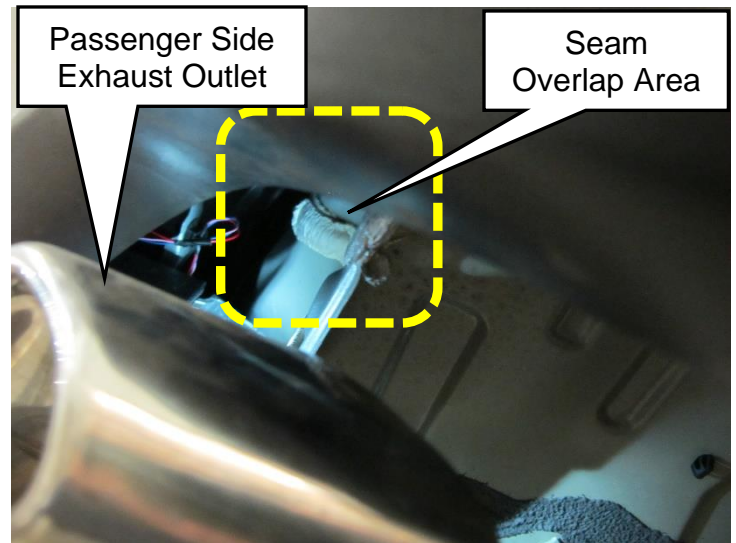

Figure 5
- Use a light source to assist with locating the seam (Figure 5)